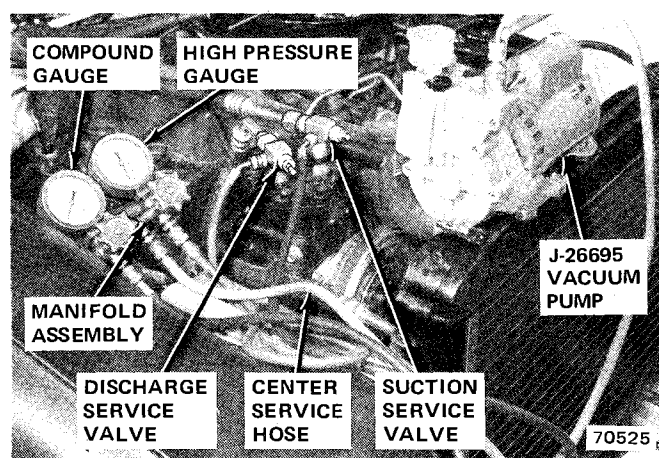

Fig. 3E-6 Evacuating System with J-26695 Vacuum Pump
- (1) Connect Pressure Gauge and Manifold Assembly, Tool J-23575.
- (2) Discharge system.
- (3) Connect center service hose to inlet fitting of vacuum pump (fig. 3E-6).